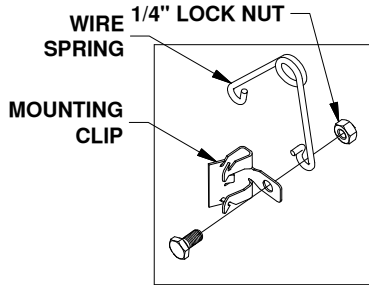
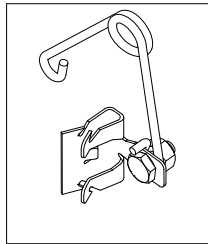

Figure B1:
Figure B2:
1. Locate the 1/4" cap screw and nut, along with the wire tension spring and mounting clip. Pass the 1/4" cap screw through the mounting clip and the wire spring as shown in Figure B1. Thread the 1/4" lock nut onto the 1/4" cap screw. Tighten the lock nut just enough that the spring will stay in place but will still be able to rotate around the bolt if needed, see Figure B2.